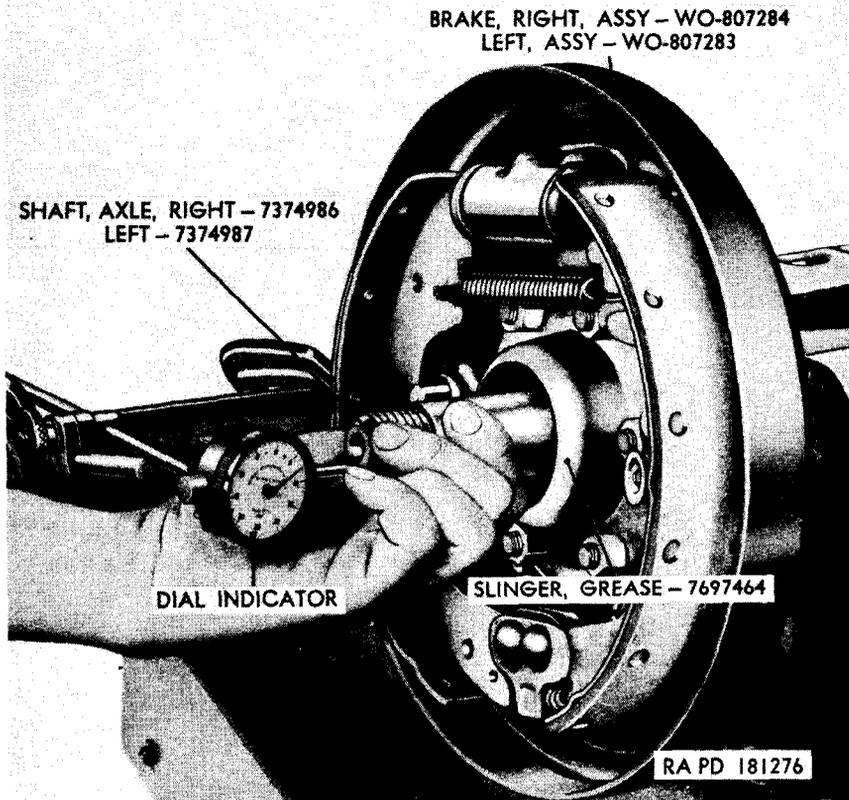

Figure 140. Checking rear axle shaft end play.
d. *Check Axle Shaft End Play.* Secure housing assembly in vise. Assemble a dial indicator so that its contact point bears against end of shaft. Check end play by moving axle shaft in and out (fig. 140). Correct axle shaft end play is 0.001 to 0.006 inch. If end play is not correct, remove or add bearing shims, as necessary.